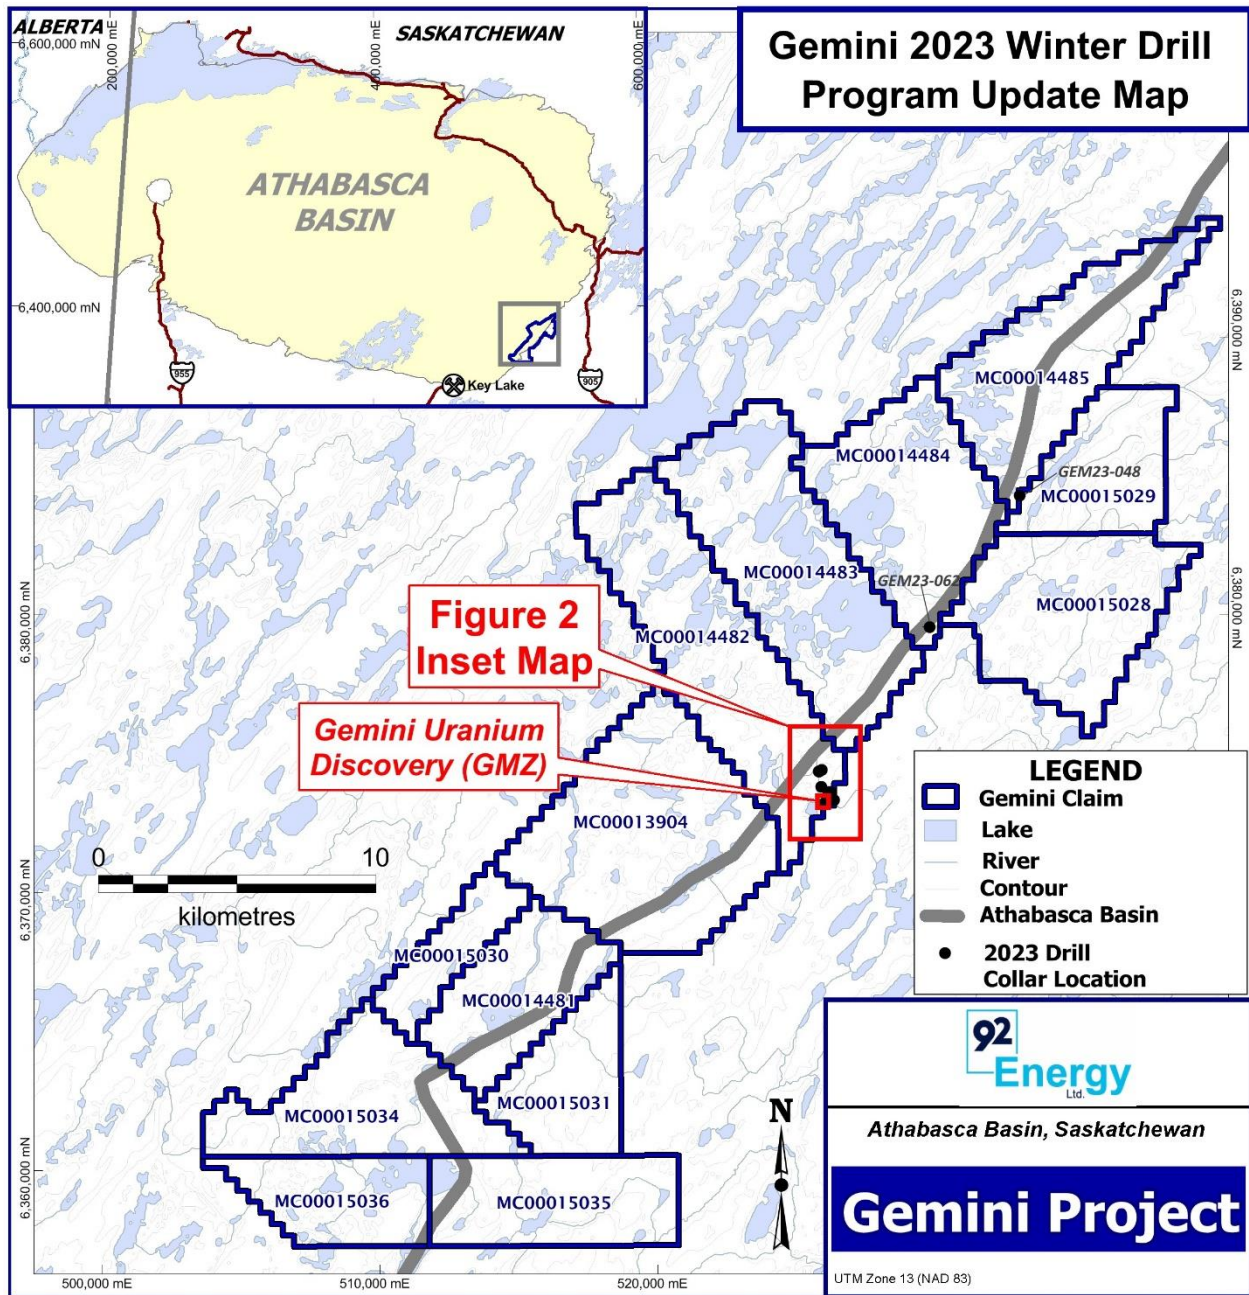

Figure 1: Location of the Gemini project and winter 2023 drillholes.
**92 Energy Limited (ASX: 92E, OTCQX: NTELF) ("92 Energy" or "the Company")** is pleased to provide an update on the now completed winter drill program at its Gemini Uranium Discovery in Canada's world-class Athabasca Basin (Figure 1).
A total of 161 drillholes were completed, totalling 4,295m of a planned 4,000m, with 1,419m located at the Gemini Uranium Discovery and 2,876m testing regional exploration areas (Figures 1 and 2, Tables 1 and 2).